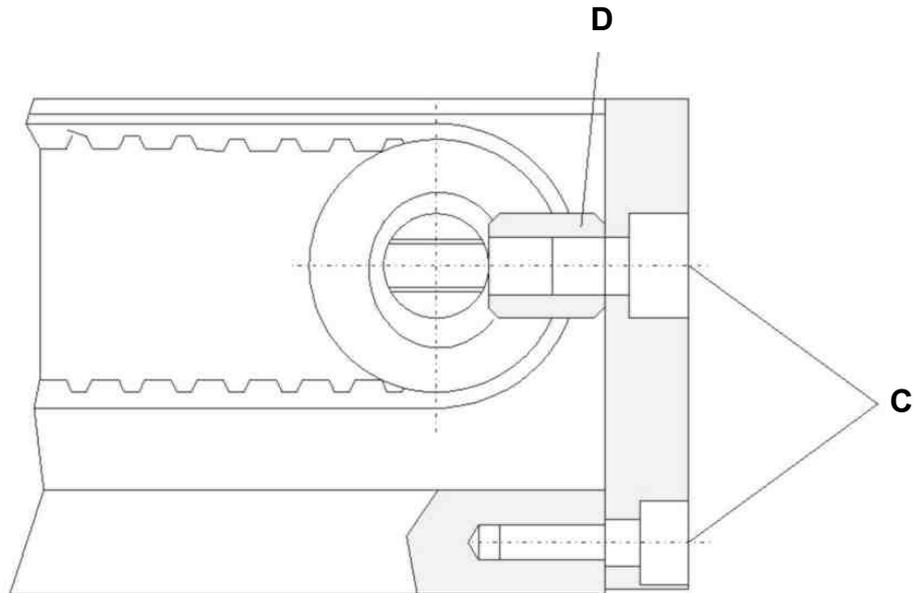

Figure 19: Deflection unit
- Remove the deflection-side end plate by loosening the four connection screws (C). The toothed belt is relieved (see *Figure 19, bottom*).
Attention: The two spacer sleeves (see *Figure 19, top, D*) must be installed as shaft stop to reproducibly limit the clamping path of the toothed belt.
- Remove the end plate by loosening the four connection screws (**C**). The toothed belt is relieved (see *Figure 19, page 22*).
- Replacement of the conversion unit, old spacer sleeves are reused! (see *Figure 19, page 22, D*).
- Attach end plate (see *Figure 19, page 22, C*).